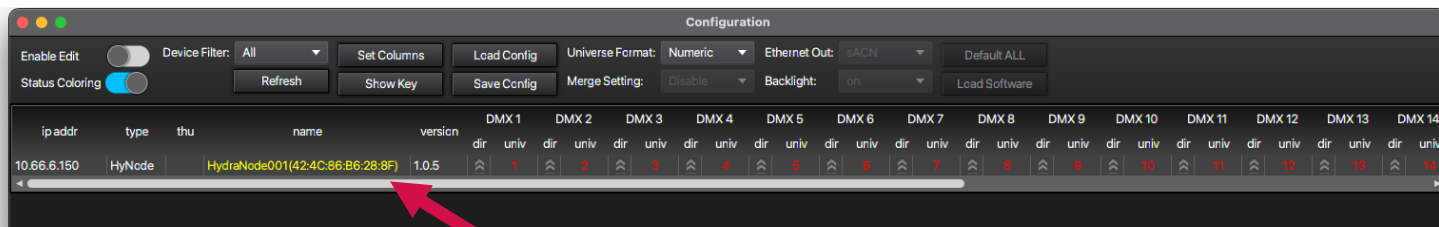

Figure 6: Status Coloring
- Step 3. The connected Hydra Node will be displayed. Confirm the current software version. If Status Coloring is enabled, the device name will be colored yellow if the software needs to be updated; see Figure 6.